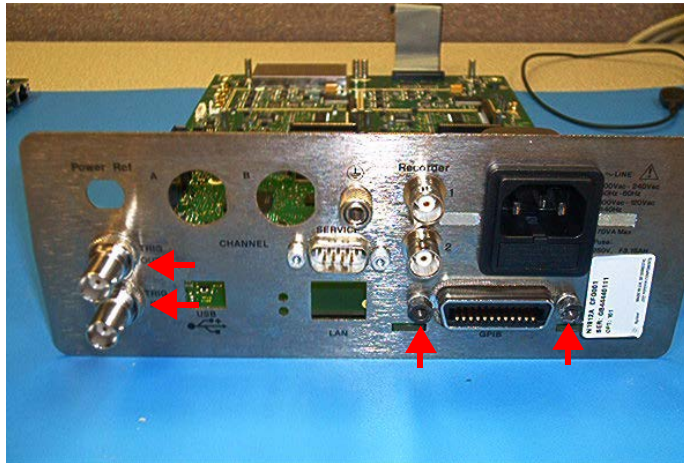

Figure 5-14
- Remove the rear panel (**Figure 5-14**): Use the N1912-61807 special tooling kit to remove the fasteners on the trigger connectors. Use the 9/32" socket to remove the GPIB standoffs. Carefully pull the rear panel away from the main board.